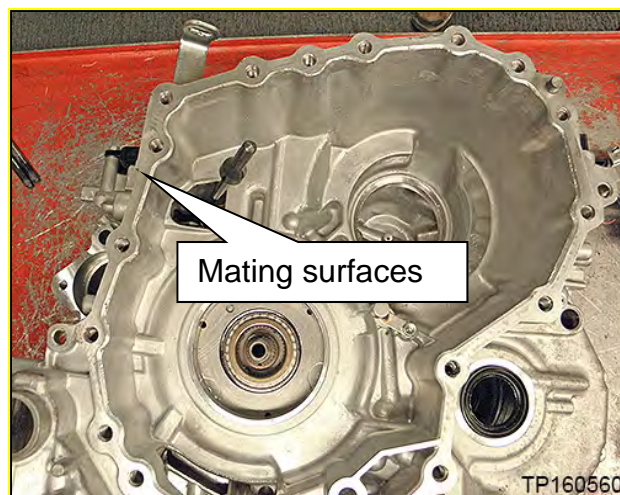

Figure 82
- Reinstall all six (6) original bolts into the old sub-assembly.
64. Thoroughly clean the mating surfaces of the CVT case (Figure 82) that the sub-assembly was just separated from (a plastic scraper can be used).